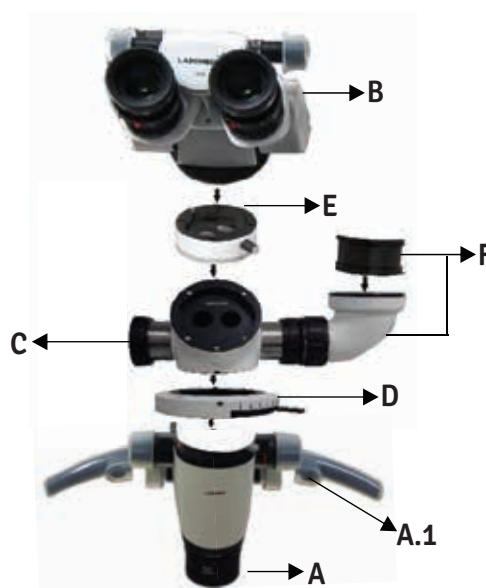

Fig. 21
- Rotate the fine focusing ring shown as (A) Fig 21 to achieve fine focus.